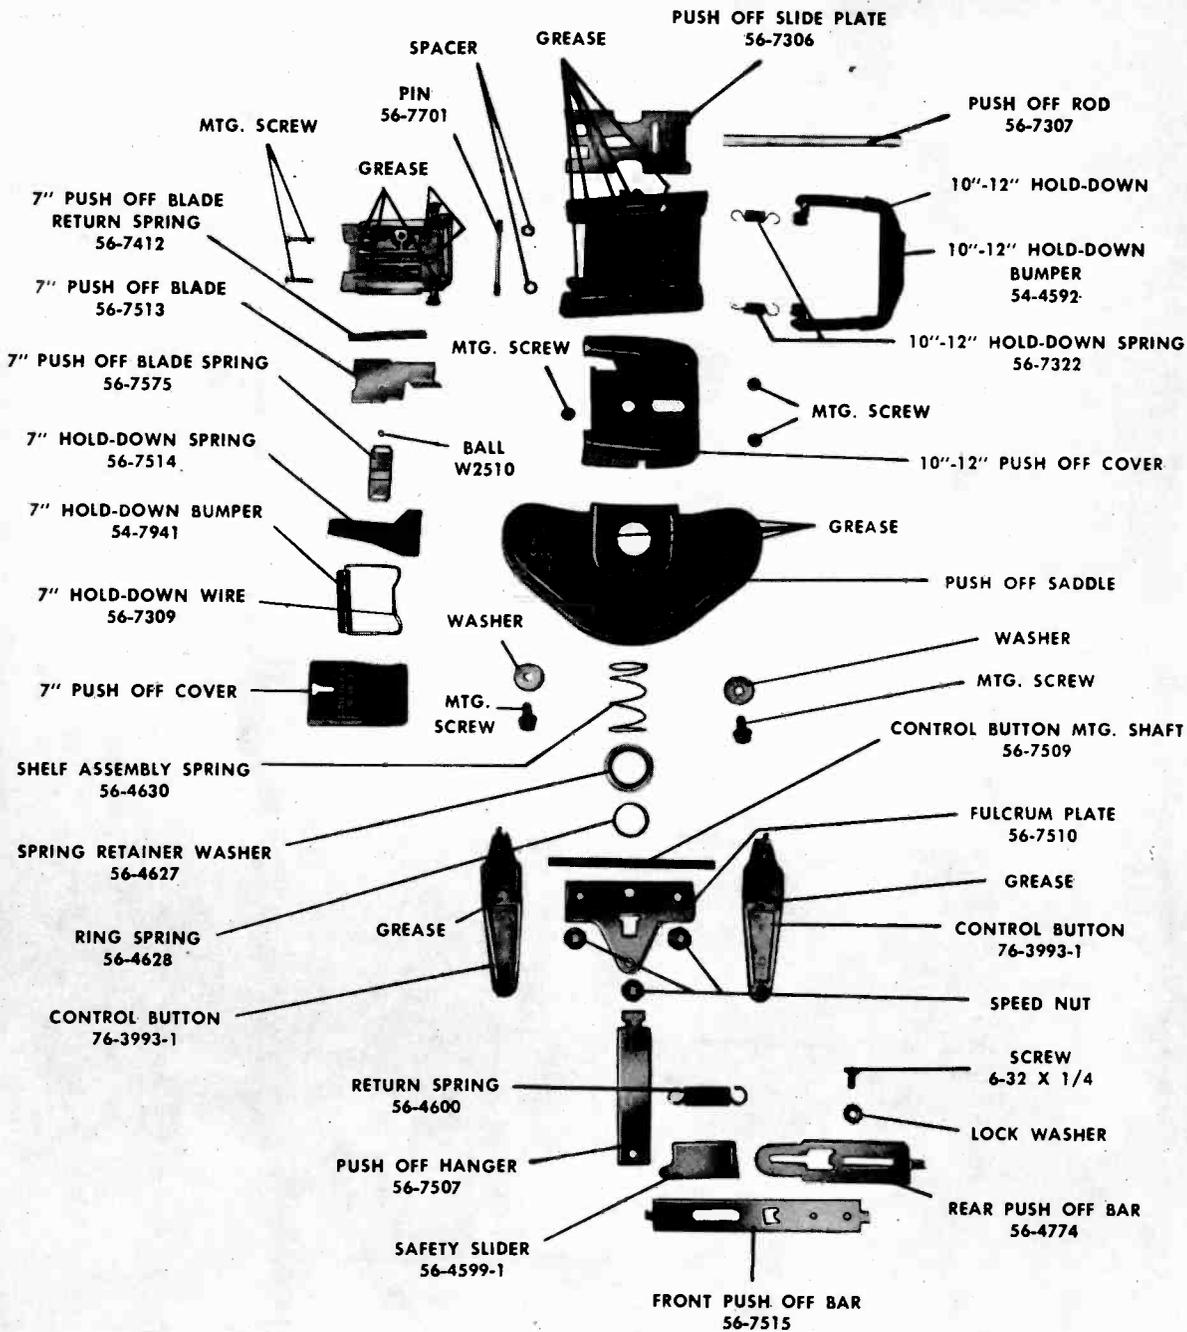

FIGURE 20. RECORD-SHELF AND PUSH-OFF ASSEMBLIES
- Remove shelf and push-off assembly from stanchion. Figure 20 shows record shelf and push-off assemblies.